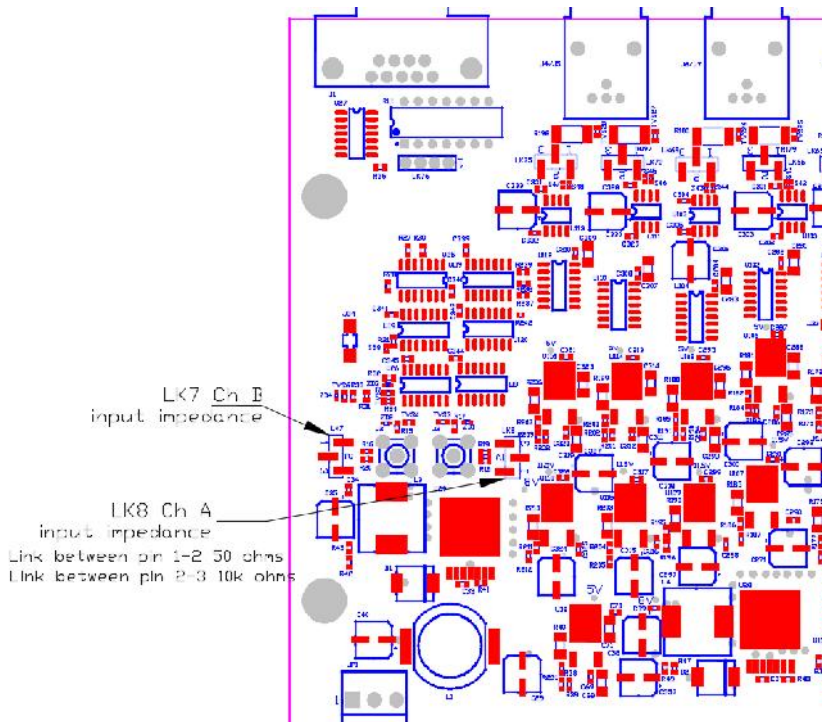

Figure 1
- Input Impedance: 50 ohm or 10k ohm. Settable by link, see figure 1
Refer to Figure 1 for a guide of the front panel controls and indicators.